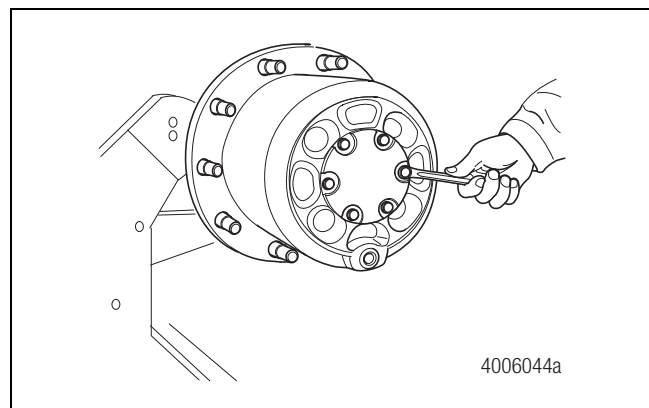

Figure 3.1
7. Use a wrench to remove the hub cover capscrews. Figure 3.1.